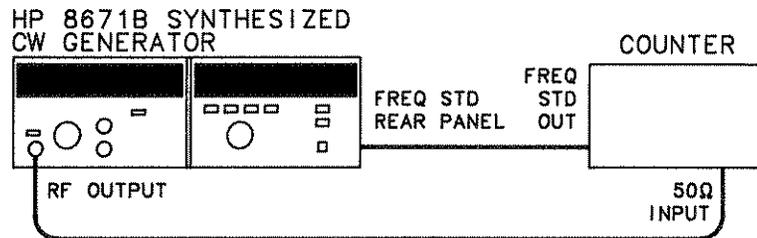

Figure 4-1. Frequency Range and Resolution Test Setup
1. Connect the equipment as shown in Figure 4-1. Set the CW Generator rear panel INT/EXT switch to EXT. Remove FREQ STANDARD jumper and connect A3J10 to the 10 MHz frequency standard output of the frequency counter.